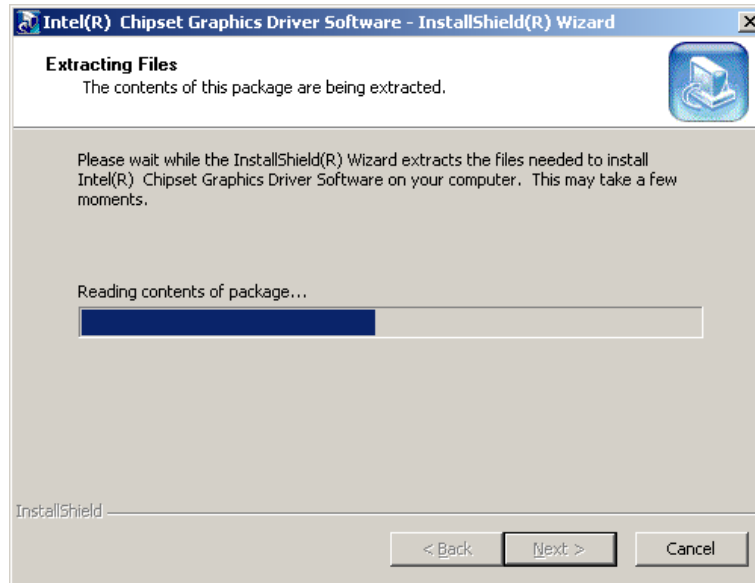

Figure 7-13: InstallShield Wizard Extracting Files
Step 6: A new window appears (**Figure 7-13**).
(Figure 7-13).